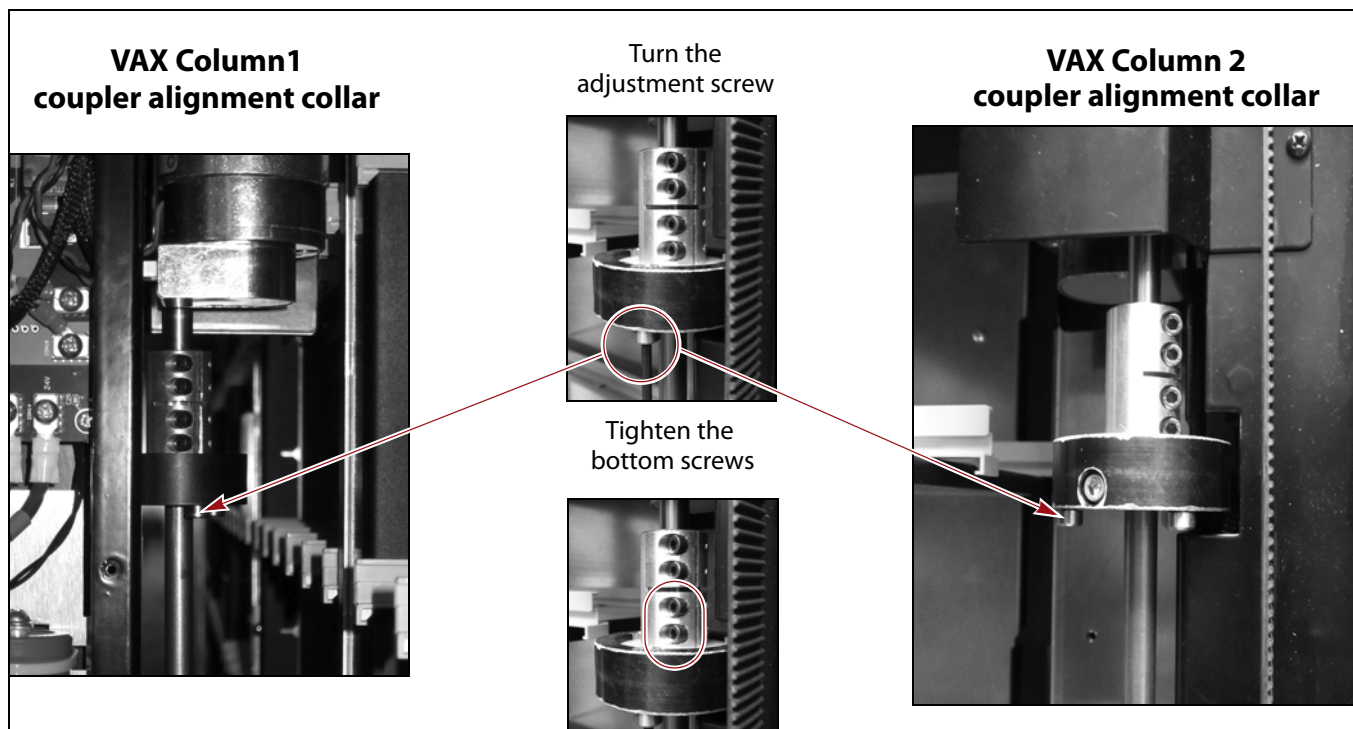

Figure 34 Adjust the VAX column alignment.
- d. Using a 7/64-inch hex wrench, tighten the bottom screws on each side of the neck of the alignment coupler (see Figure 34).